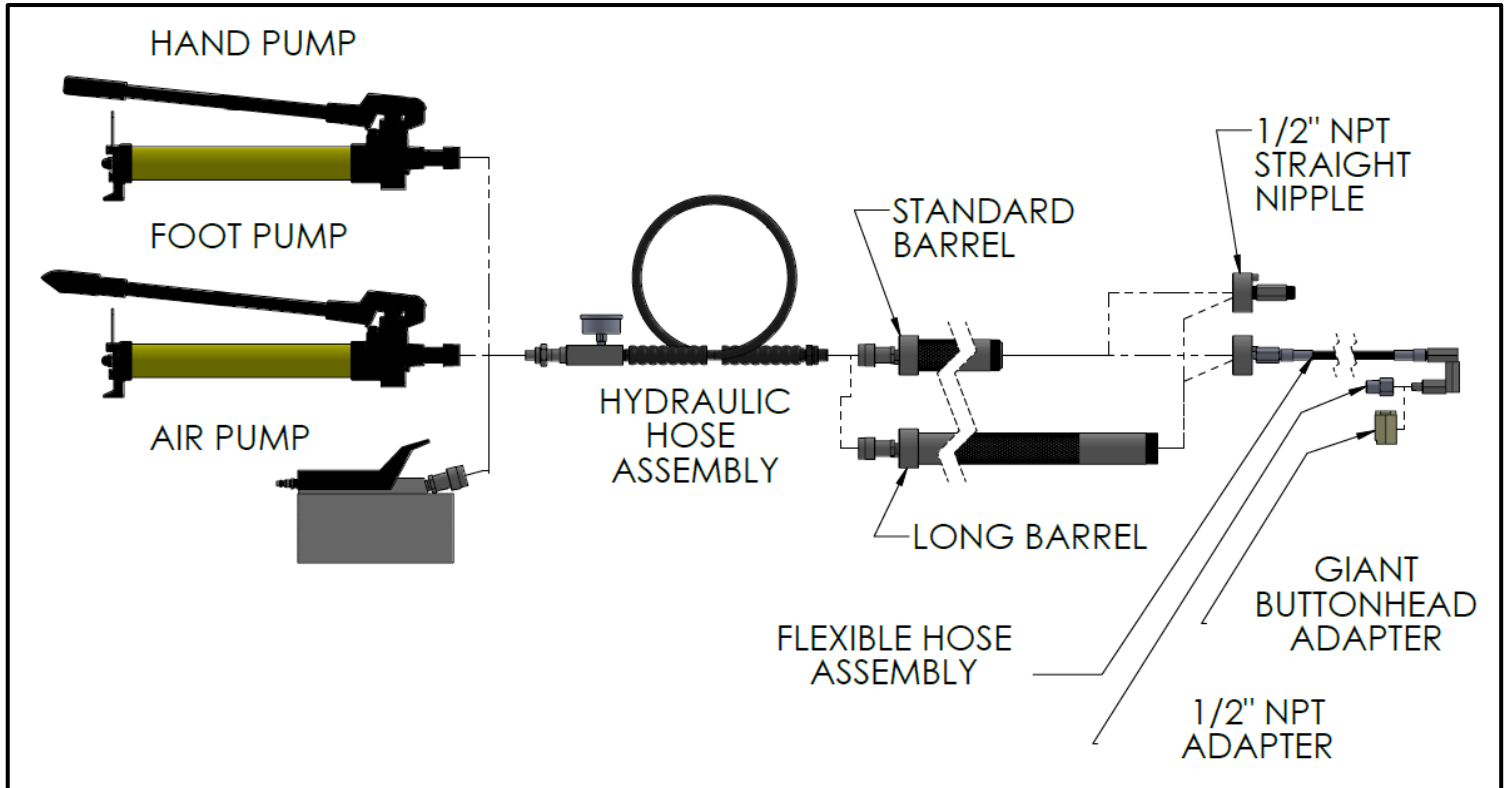

Figure 4
PLIDCO offers standard and long barrel hydraulic sealant pumps. There are three different pump variations you could choose from: Hand pump, foot pump, and air pump. They all utilize standard hydraulic fittings and are interchangeable between units. Figure 4 shows the different variations on the pumps. All units come in a Pelican® case for storage between uses.
- 1.) Figure 4 above shows how to assemble the units after removing them from the case.